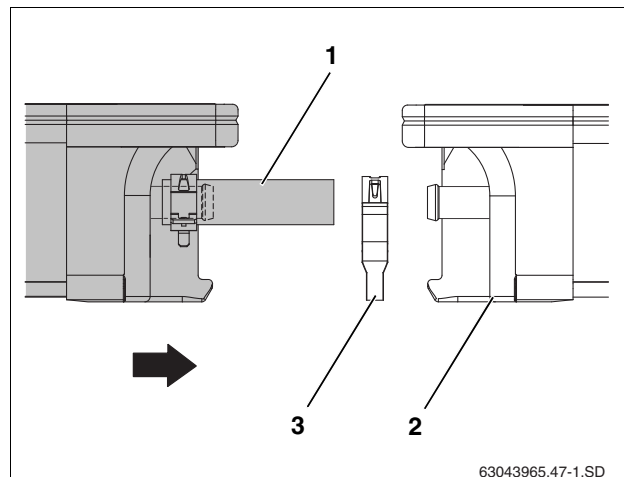

Fig. 43 Pushing second collector toward the first
- ▶ Place second collector along with the preassembled solar hoses (Fig. 43, [1]) onto the profile rails and let it slide into the collector hangers.
- ▶ Push the second hose clamps (Fig. 43, [3]) onto the solar hose.
- ▶ Push the collector towards the first collector (Fig. 43, [2]) in such a way that the preassembled solar hoses are pushed onto the left-hand connections on the first collector.